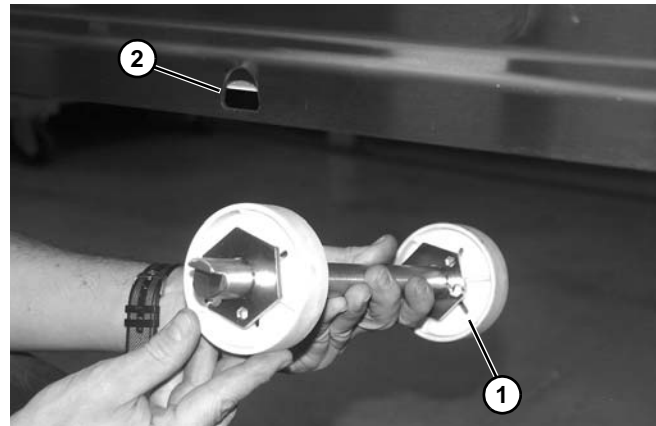

Figure 82
3. Remove belt returns (Figure 82, item 1) from slotted holes (Figure 82, item 2) on each side of conveyor frame.